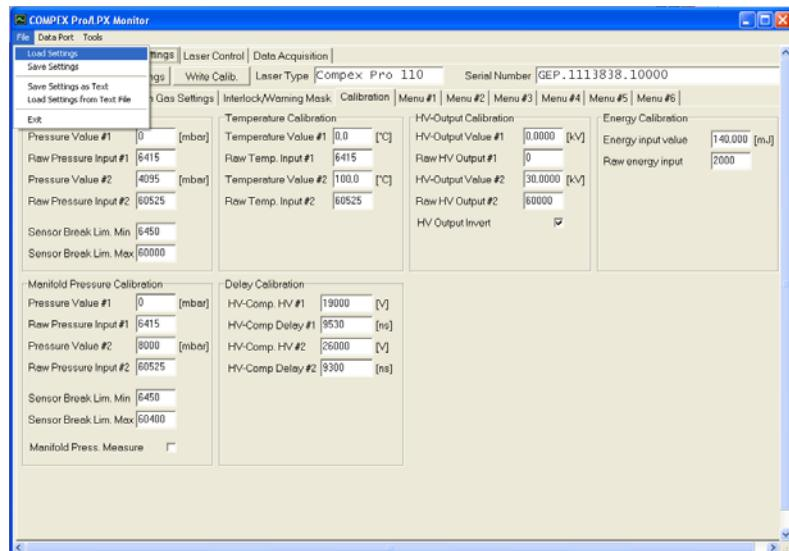

Figure 127: Loading new settings
26. Select “File” and “Load Settings” to load the new parameter settings (see Figure 127).